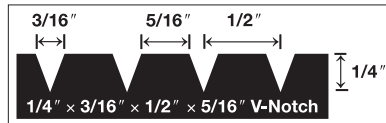

Figure 2
- 1/4" x 1/2" x 3/16" (6 mm x 13 mm x 8 mm) V-Notch Trowel (Figure 2)